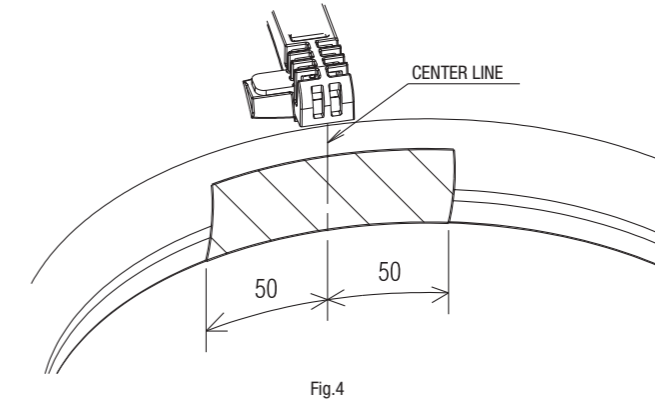
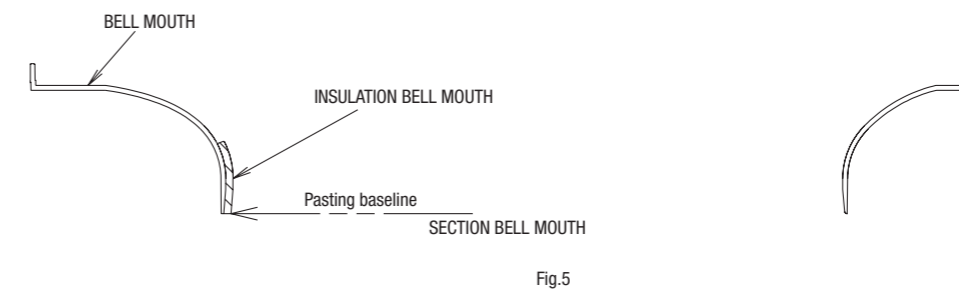

Fig.4
Fig.5
(2) At air outlet B, attach the INSULATION BELLMOUTH onto the bell mouth as shown in Fig.4 and Fig.5.